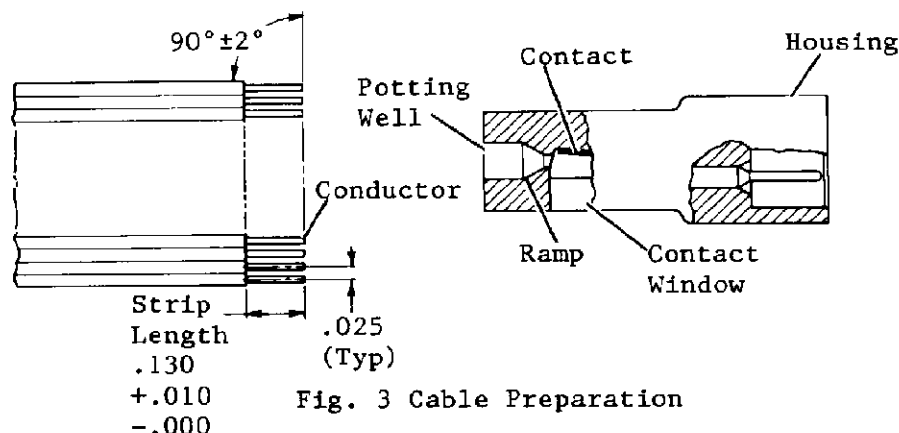

Fig. 3 Cable Preparation
1. The cable must be stripped with a precision made stripping tool using the dimensions shown in Figure 3. We recommend the use of the Carpenter Model 47B* Flat Cable Stripper or equivalent.